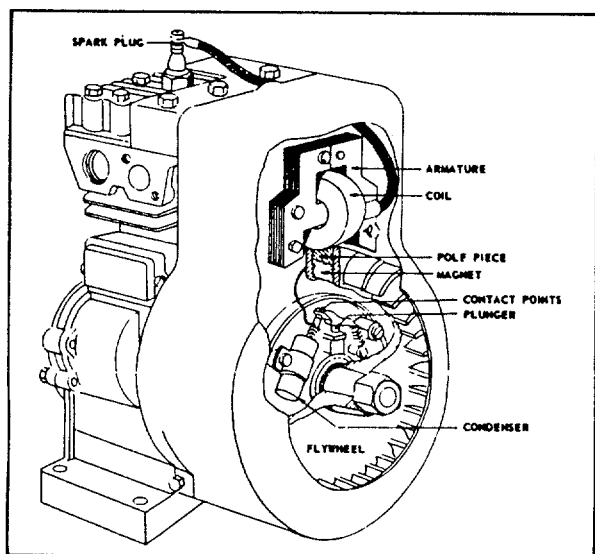

Fig. 4. - Flywheel Ignition Internal Breaker
2. A flywheel type, having either an internal or external breaker system. Fig. 4 and Fig. 25.